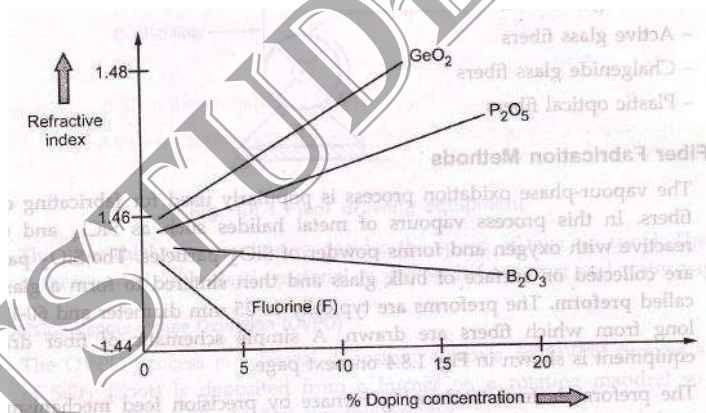

Fig. 1.8.3 Variation of refractive index with doping concentration
- x Glass is made by fusing mixtures of metal oxides having refractive index of 1.458 at 850 nm. For changing the refractive index different oxides such as  $\text{B}_2\text{O}_3$ ,  $\text{GeO}_2$  and  $\text{P}_2\text{O}_5$  are added as dopants. Fig. 1.8.3 shows variation of refractive index with doping concentration.
- x Fig 1.8.3 shows addition of dopants GeO2 and P2O5 increases refractive index, while dopants Fluorine (F) and B2O3 decreases refractive index. One important criteria is that the refractive index of core is greater than that of the cladding, hence some important compositions are used such as